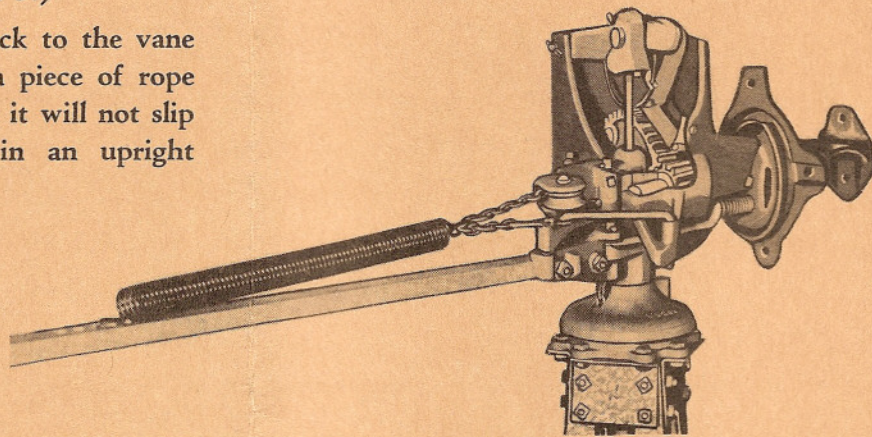

Fig. 5
5. On the 6 foot and 8 foot mills, bolt the assembled vane to the head. Use  $\frac{3}{8}$  inch x  $1\frac{1}{4}$  inch bolts to bolt vane stem to lower vane hinge, No. WB 12, and  $\frac{7}{16}$  inch x  $1\frac{1}{2}$  inch bolts for No. WC 12. (Use  $\frac{1}{2}$  inch x  $1\frac{3}{4}$  inch bolts for WD 12.) Then hook one end of the spring in the widened link of the chain and the other end in the middle hole in the vane stem. (Fig. 5.)